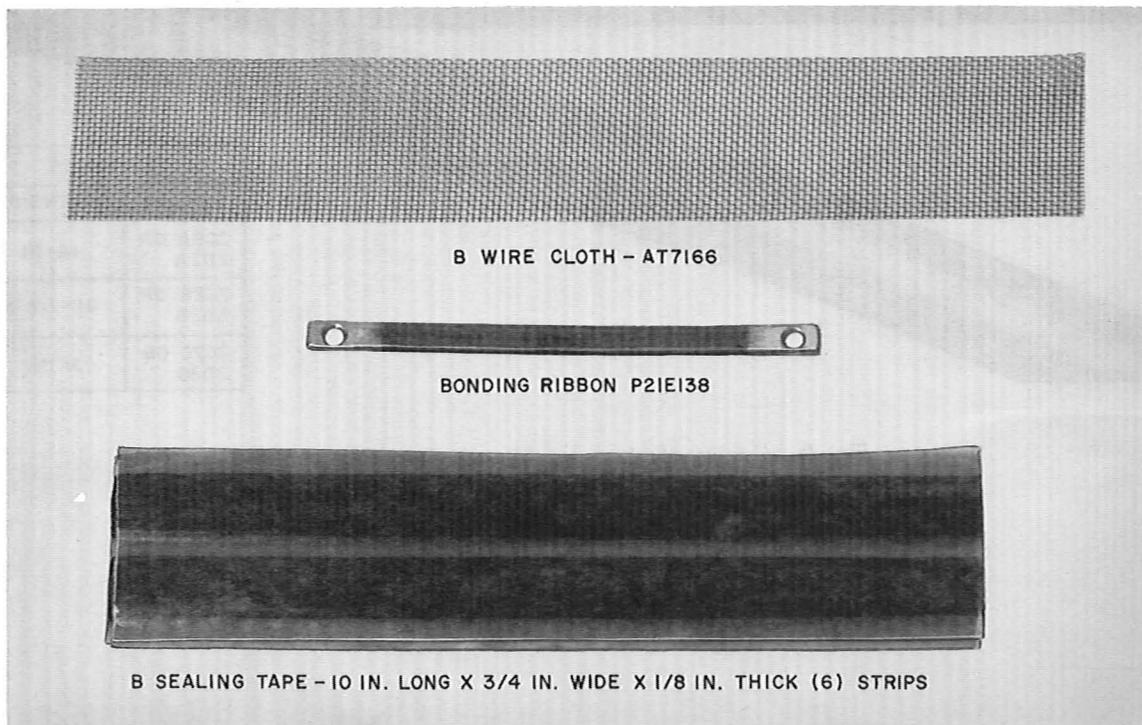

Fig. 1—D-180660 Kit of Parts
- (a) D-180660 Kit of Parts (Fig. 1)—one (1) kit required for each dual jacket entrance cable